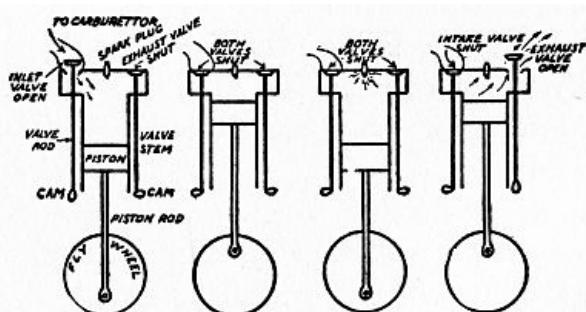

FIG. 31. HOW A FOUR-CYCLE GASOLINE ENGINE WORKS.
It consists of (1) a *cylinder* with *valves* in it and in which a piston moves to and fro; this is connected to (2) a *crankshaft* by means of (3) a *piston rod* as shown in Fig. 31. To the cylinder is fixed (4) a *carburetor* which mixes the gasoline with the air and forms the explosive gas, or *fuel mixture* as it is called, and (5) a *high tension magneto* which generates an electric current to make the spark that fires the fuel mixture, etc.
Fig. 31 shows how the inlet and exhaust valves are worked, each one by a little wheel with a lump on one side, or *cam*, as it is called, which is fixed on a *cam-shaft* and is turned by the crankshaft. The cams, of which there are two for each cylinder, are set directly under the ends of the *valve rods*, and as the cam-shaft revolves, the little lumps on the cam strike the valve rods at the right moments and this lets the fuel mixture into the cylinder and lets the used and burnt-up gases out of it.
Fig. 31 also shows the complete action of a four-cycle engine. The *suction stroke* is shown at A; as the piston moves down, the cam forces the inlet valve up and the piston sucks the fuel mixture into the cylinder. The exhaust valve is closed while this stroke is taking place.